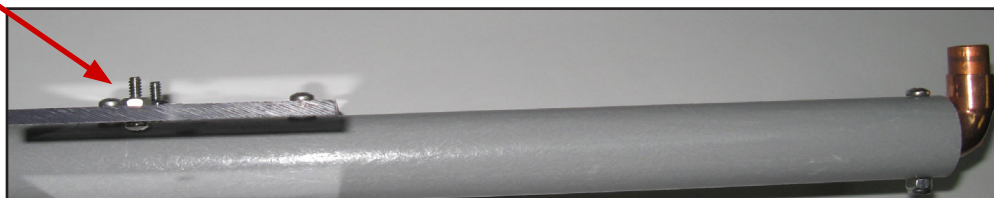

Fig. 40
**Note:** The Hex Nuts with Tooth Washer of the Driven Element Terminals are oriented up, on the top surface of the Element Plate and are the furthest distance from the copper elbow as shown in Fig. 40.